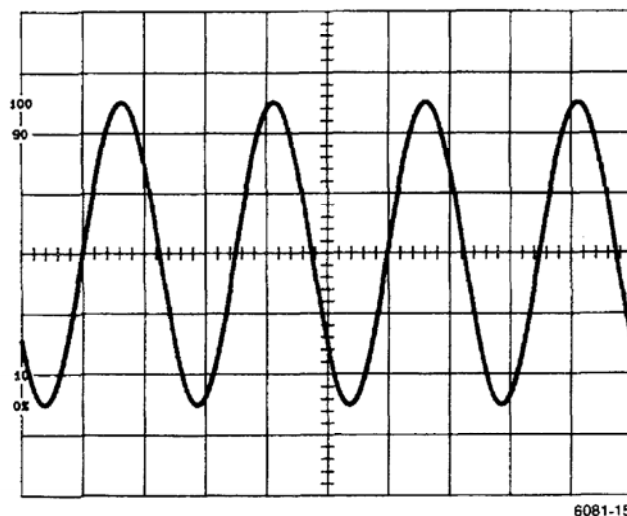

Figure 5-2. 2 ns Timing.
- c. ADJUST – 2 ns TIMING (C807, C814) for 1 cycle for each 2.5 divisions over the center 8 divisions. See Figure 5-2. Use the vertical transition of the sine wave instead of the peaks for better accuracy.